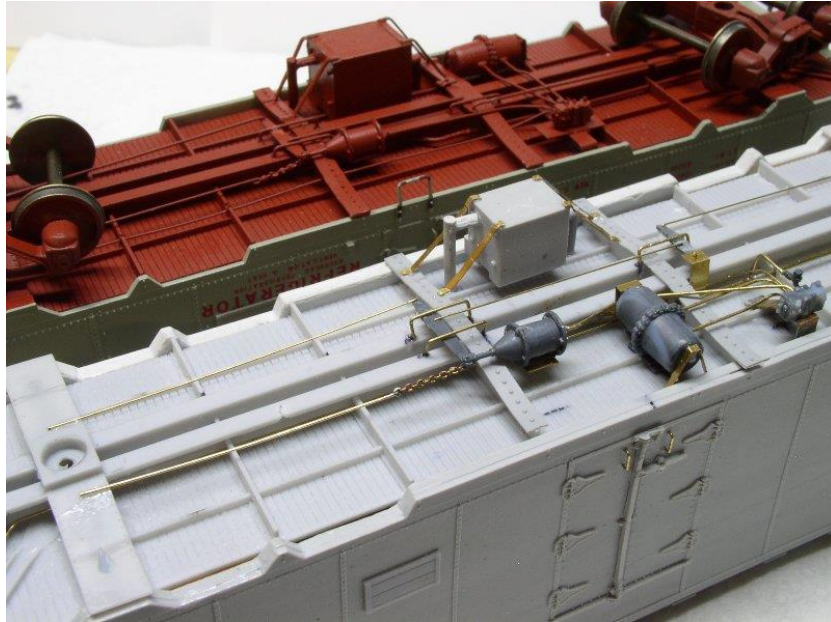

Figure U31
6. Attach about 28" of chain to 0.020" brass rod. Attach the chain to the Brake Cylinder/Long Brake Lever combination. Attach the free end of the brass rod to the bolster. A Series 2 underframe is shown for comparison. See Figure U31.